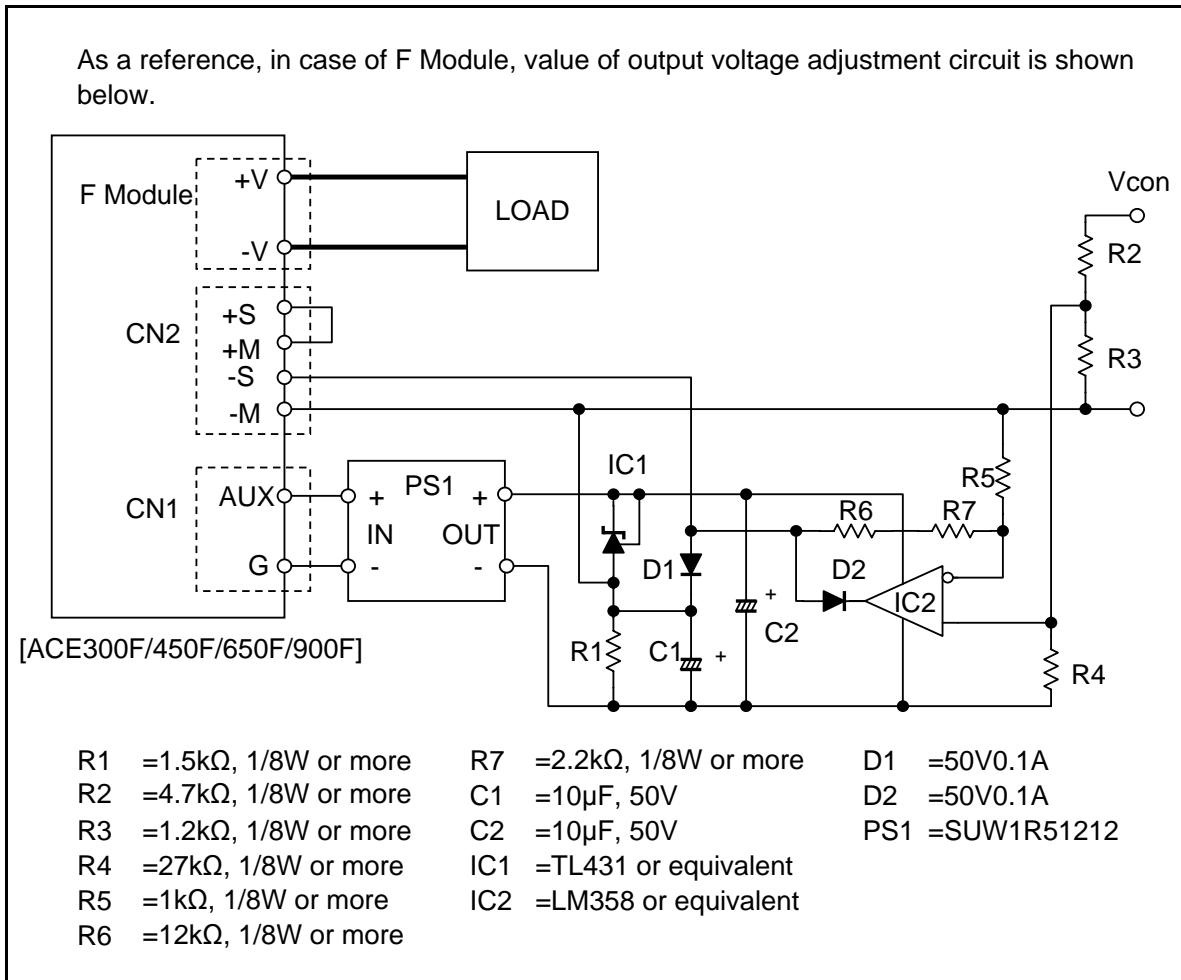

Fig.4-1 Adjustment by signal voltage
Characteristic of example circuit in Fig.4-1 is shown below.
Fig.4-1 constant current circuit by using a shunt resistor
In the circuit shown in Fig.4-1, the output current can be adjusted by the signal voltage (SV). For example, in case signal voltage is 10V, the output current should be 25A. And if the voltage (SV) doesn't change, the output current could be kept constantly.